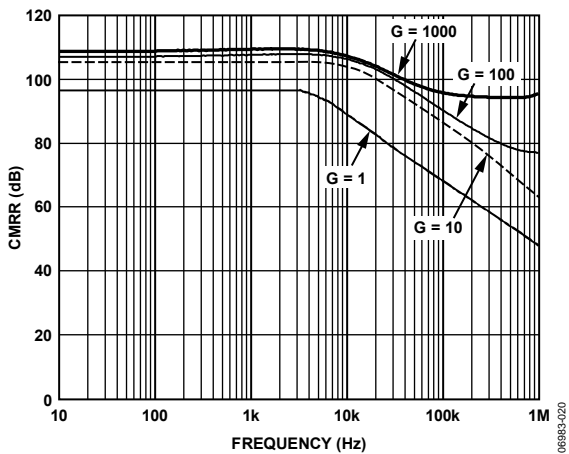

Figure 20. CMRR vs. Frequency
- ¹ See Figure 20 for CMRR vs. frequency for more information on typical performance over frequency.